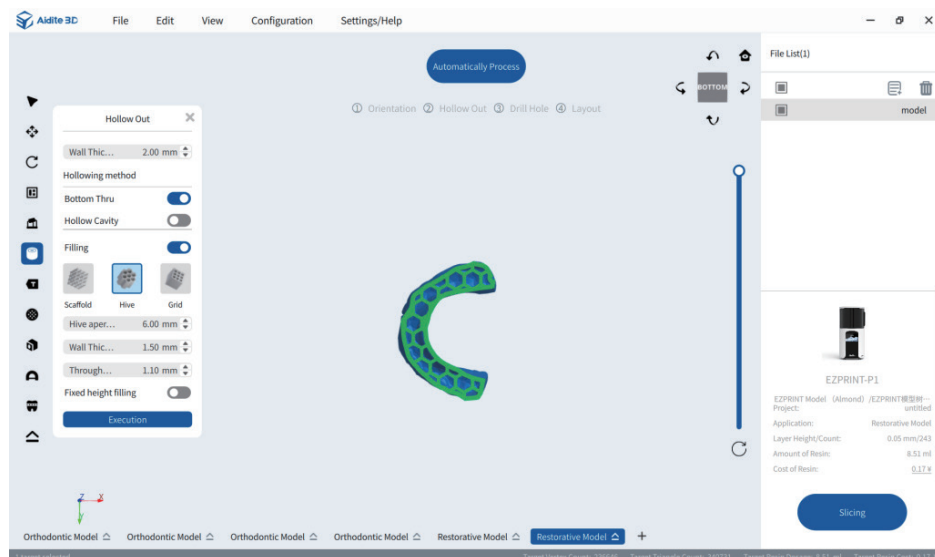

Figure 8
- ② Click the "Execution" tab to complete the hollowing of the model, as shown in Figure 8.